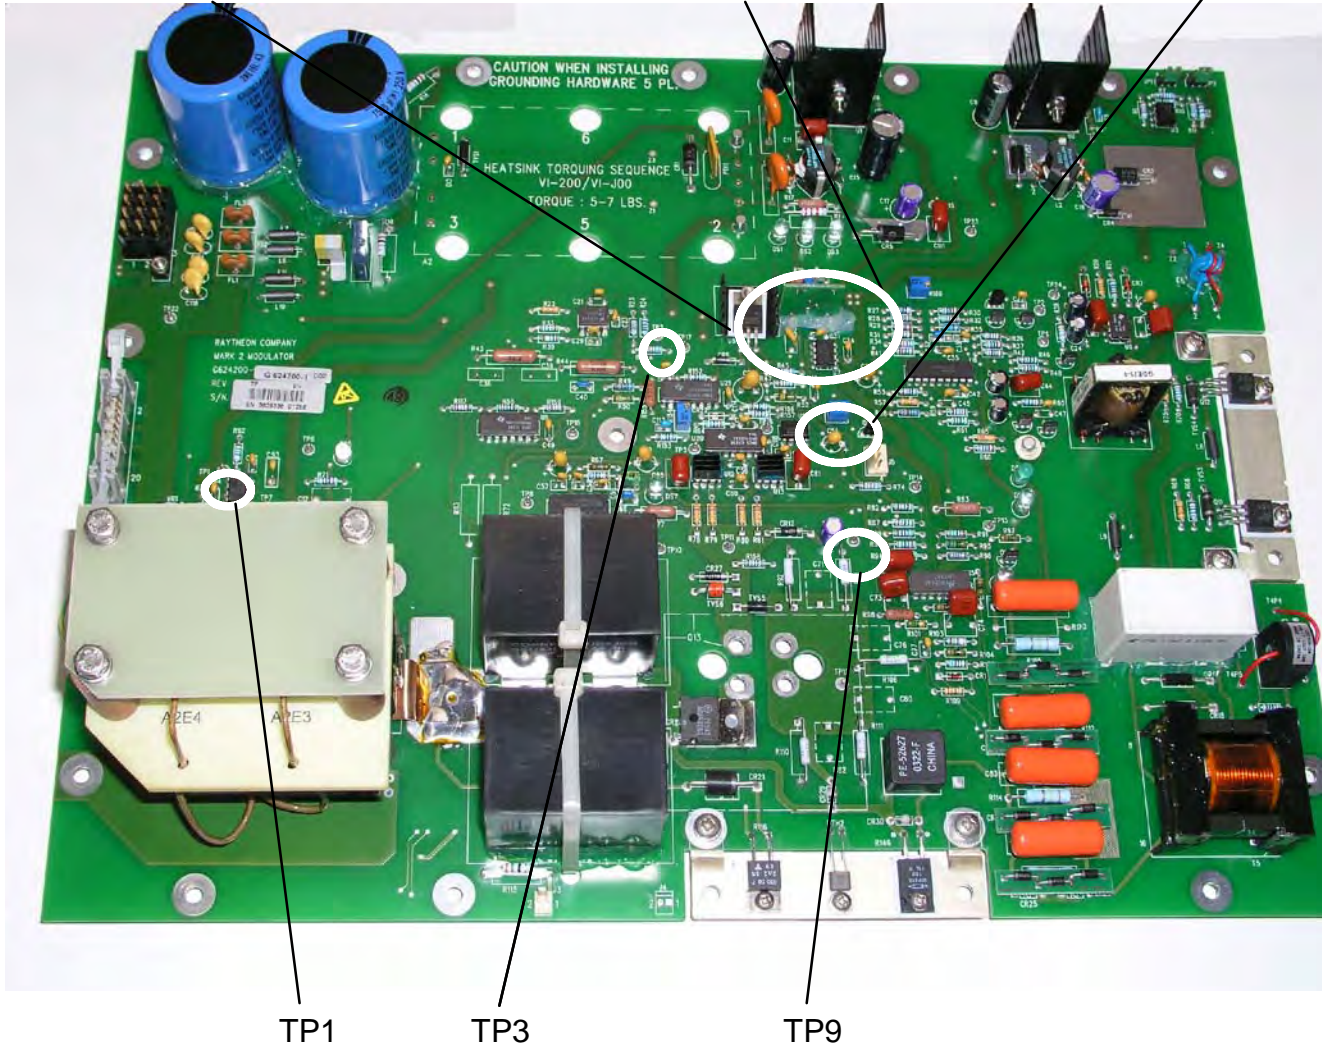

Figure: 4-2 Modulator PCB MAG I Adjustment and Reference Adjust Board
- (1) At the MTR, place the Antenna Safety switch to OFF to prevent accidental antenna rotation and transmission. Open the right access door using a 10 mm socket to gain access to the Modulator PCB mounted on the inside of the door.
- (2) Locate Link JP3 on the Controller PCB and link JP3 2-3 to disable antenna rotation. **Rotate the array away from personnel.** Place the Antenna Safety switch to ON to enable the transmitter.
- (3) Place DVM positive lead to the U11 side of R62 or TP 1 on the Modulator PCB and negative lead to chassis ground, Figure: 4-2.
- (4) On the Modulator PCB, locate and adjust R56 (MAG I ADJ) for 2.8V DC S-Band and 3.2V DC X-Band.